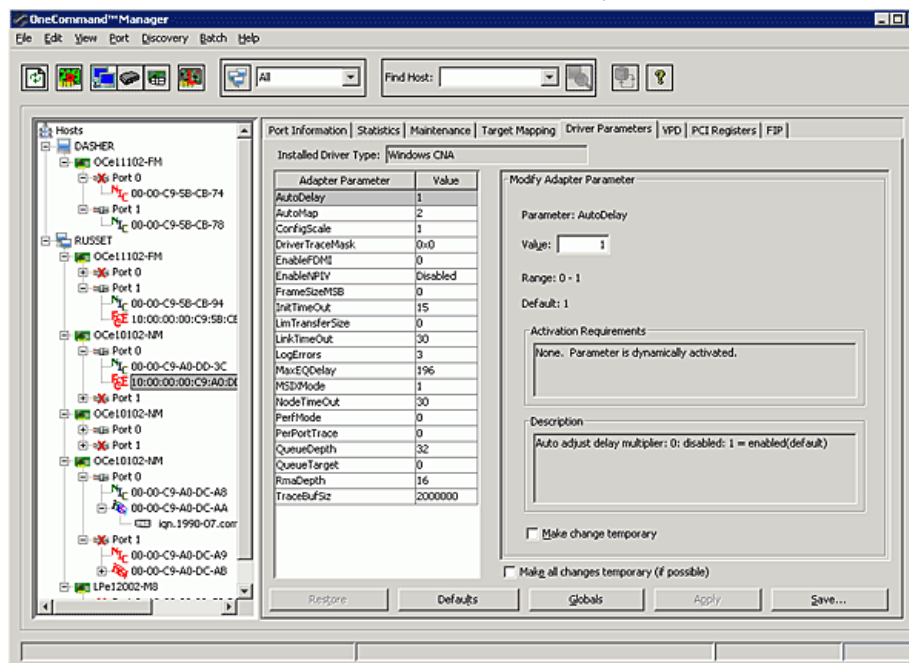

Figure 8-31 Driver Parameters Tab - Adapter Selected
3. Select the **Driver Parameters** tab (Figure 8-31 on page 158). The parameter values for the selected FC/FCoE functions are displayed.
If you changed parameters, but did not click **Apply** in the **Driver Parameters** tab (Figure 8-31 on page 158) and you want to restore the parameters to their last saved values, click **Restore**.
To reset all parameter values to their default (factory) values, click **Defaults** in the **Driver Parameters** tab (Figure 8-31 on page 158).
3. Select the **Driver Parameters** tab (Figure 8-31 on page 158).
To save a desired adapter parameter configuration for using with the Batch Driver Parameter Update feature, click **Save** in the **Driver Parameters** tab (Figure 8-31 on page 158). To apply your configuration changes, click **Apply**.